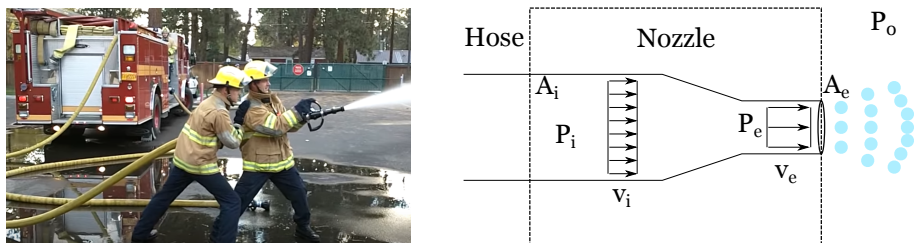

Figure 16: Left: typical position to balance the fire hose reaction. Right: representation of the hose nozzle.
When holding a fire hose, firemen experience the hose reaction. Very often this requires the help of a colleague or special positions: see the movie at <https://www.youtube.com/watch?v=6me9iP13zew>. In figure 16, the position of the firemen suggests that this force is directed backward (or toward the left). There are a lot of debates about the origin of this reaction. Some people argue that this force is linked to the
constriction inside the hose nozzle (right in Fig. 16). The hose diameter is $d_i = 6.40$ cm. The nozzle diameter is $d_e = 3$ cm. The flow rate is 40 L/s and viscous effects can be neglected.
(1) Calculate the velocities v_i and v_e respectively at the entrance and at the exit of the nozzle. Why can we neglect the viscous effects ?
(2) What are the expressions and values of the pressures P_i and P_e (we note P_0 the atmospheric pressure). By performing a momentum balance on the nozzle (dashed system in Fig. 16) give the amplitude and direction of the reaction force experienced by the nozzle.
(3) Is it coherent with the position of the firemen ? Can you identify another source of reaction by looking at the picture ? Discuss this force and the last position showed in the movie.